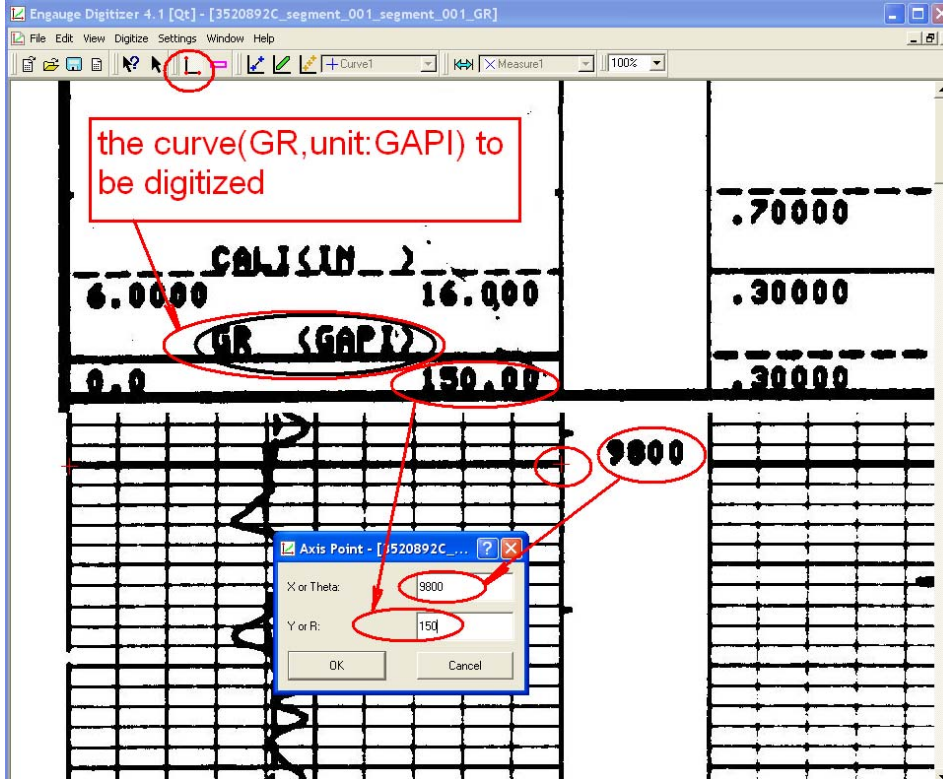

Figure 7, the second axis point (red cross) and its graph coordinates
c. Click on one of the graph axes to add the second axis point, then enter its graph coordinates. (Figure 7). X=9800 (X meaning ft along the downward depth); Y=150.0 (Y meaning the value of GR along the horizontal axis at this position).